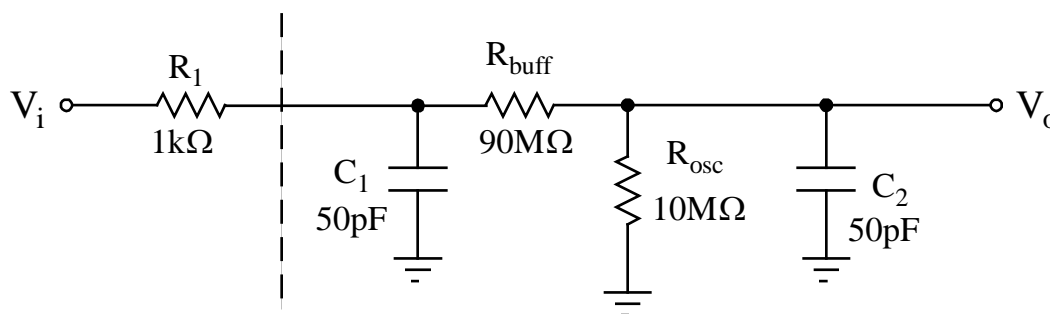

Figure PL1.2(c)
- (c) One way to reduce the effective capacitance loading the original “circuit under test” is buffer the circuit from the oscilloscope input by adding a series resistor R_{buff} between the test circuit and the input of the oscilloscope, as shown in Fig. PL1.2(c).
- (i) Determine the input impedance of the circuit to the right of the dashed line in Fig. PL1.2(b) in terms of C_1 , C_2 , and R_{osc} . Call it Z_{in1} .